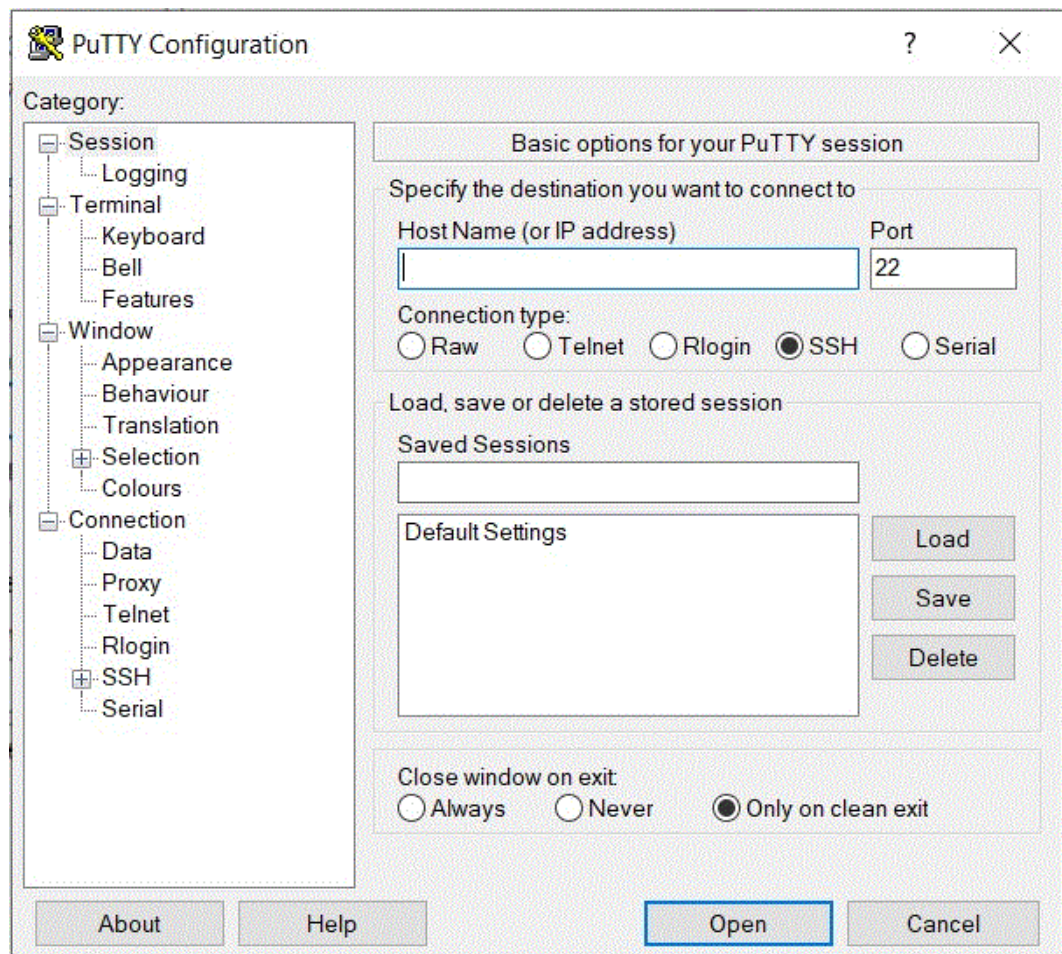

Figure C-8 PuTTY Configuration
1. Start PuTTY. The PuTTY Configuration window opens (see Figure C-8).